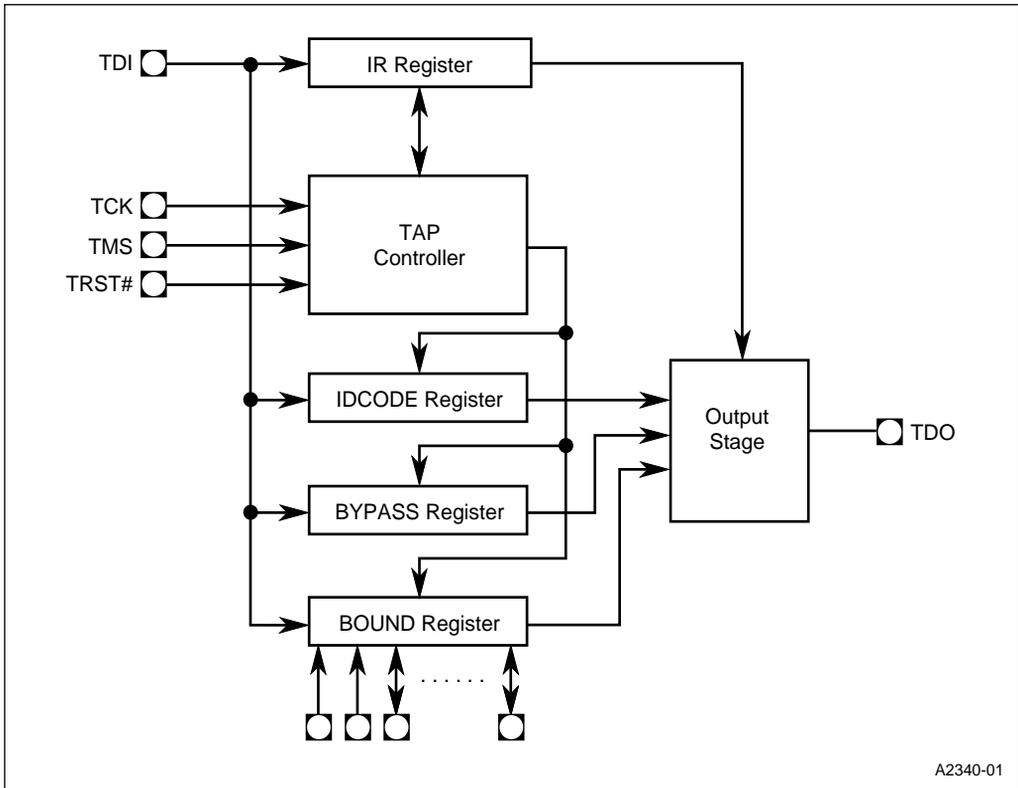

Figure 18-1. Test Logic Unit Connections
The test-logic unit (Figure 18-1) is fully compliant with IEEE Standard 1149.1. It consists of the test access port (TAP), the test access port controller, the instruction register (IR), and three data registers (IDCODE, BYPASS, and BOUND). It also includes logic for generating necessary clock and control signals.